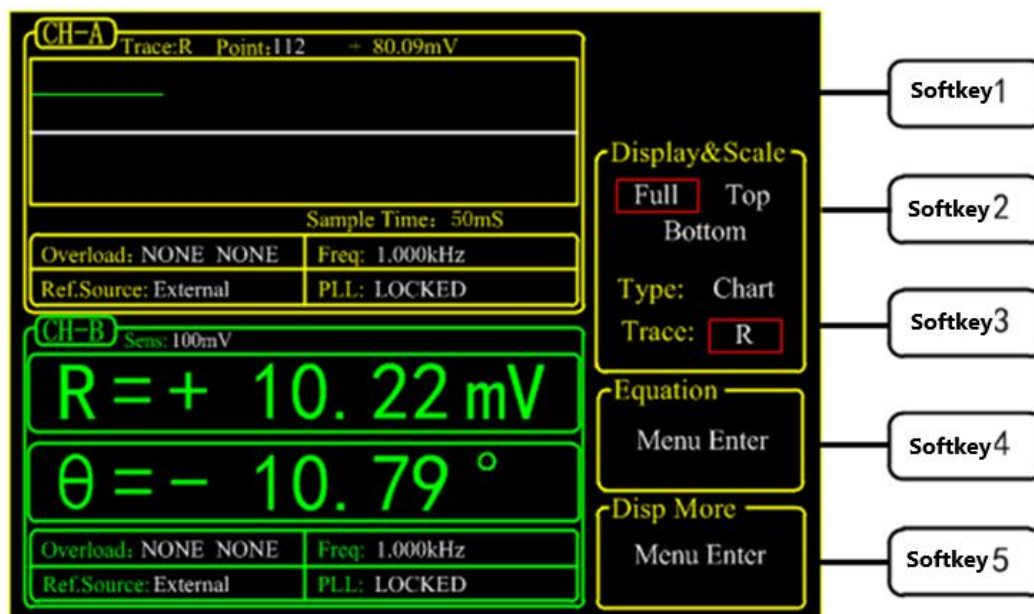

Fig.91 Display < θ > in XY Chart
Third, press [soft key 3] to highlight $\langle\text{Trace}\rangle$ and then choose $\langle\theta\rangle$. After these settings, the result is shown in Fig.91.